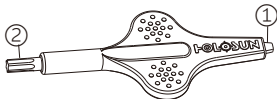

Fig 9
2. T10 Torx tool for screws. (See Fig 9)